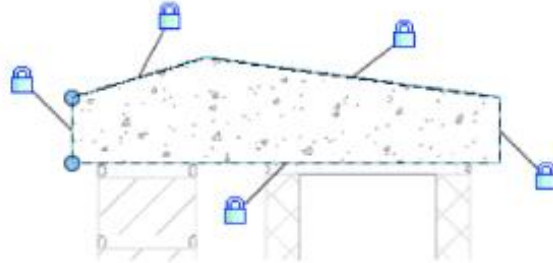

Figure 16–32
7. Select the edges of the cap, as shown in Figure 16–32.